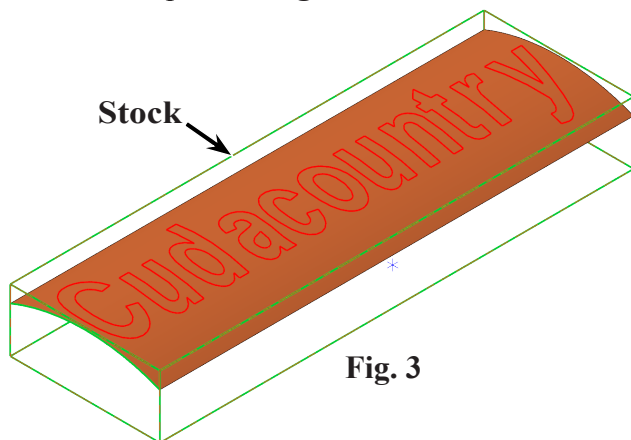

Fig. 3
Step 10. Click OK  in Machine Group Properties, **Fig. 3**.